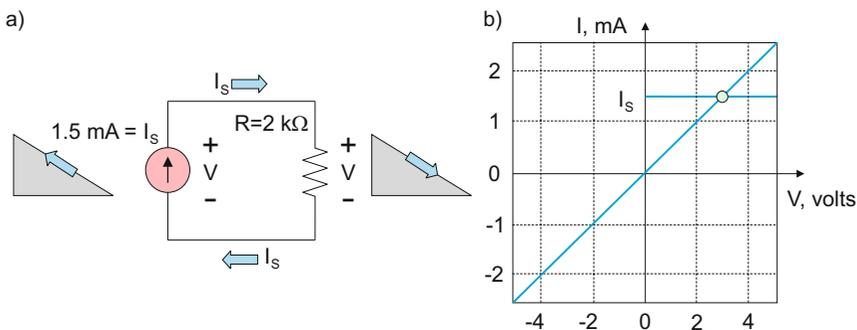

Fig. 2.24. Electric circuit solution in the graphical form.
**Example 2.8:** Solve an electric circuit shown in Fig. 2.24—determine voltage  $V$  across the source and the resistance.